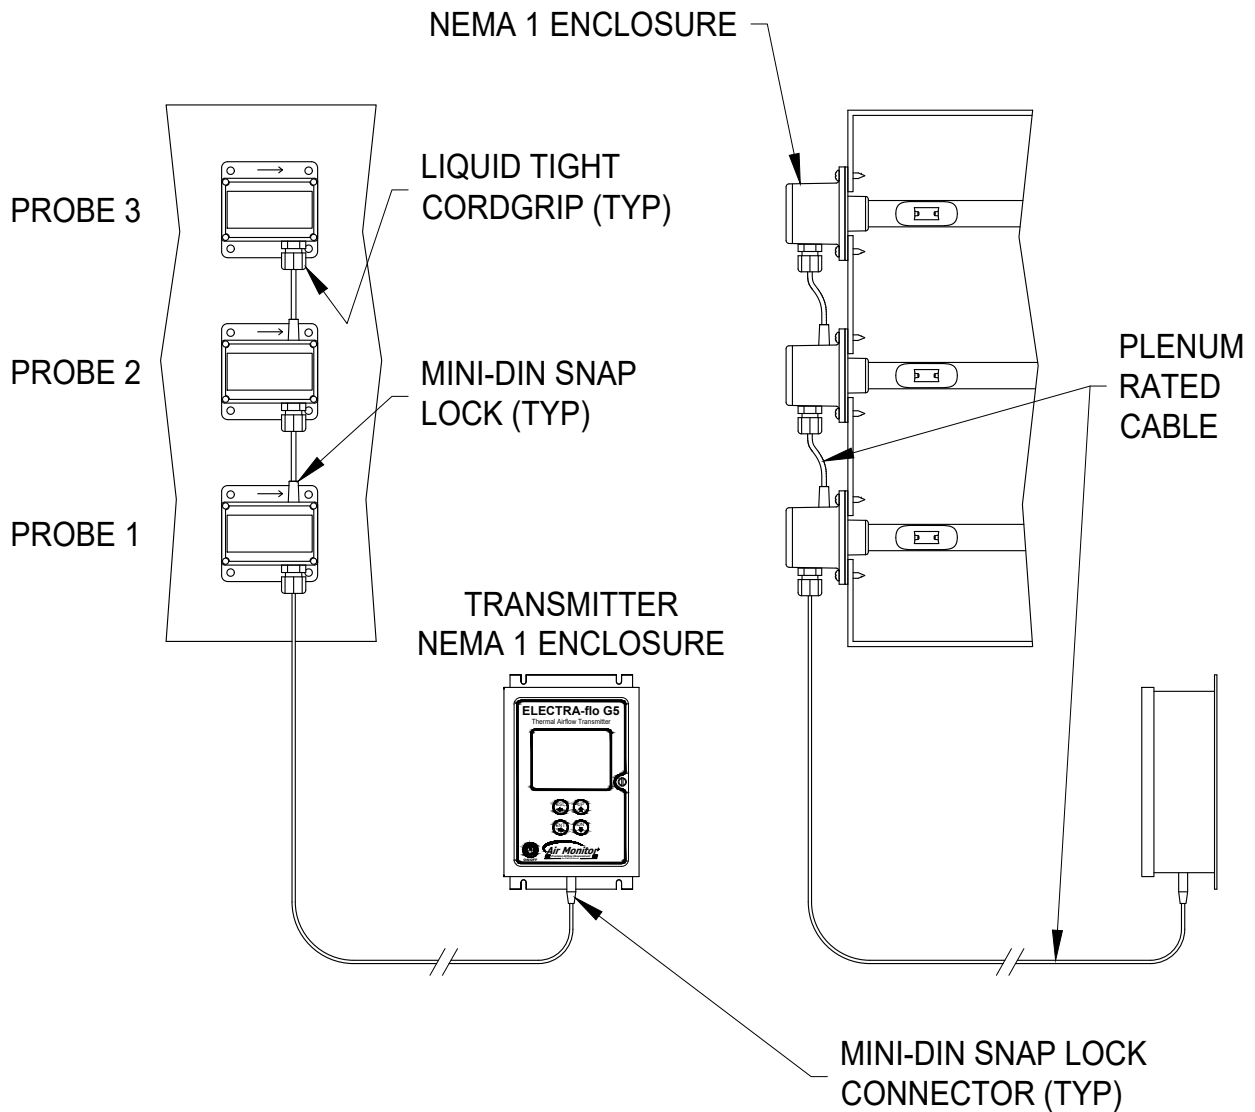

Figure 11
- Multiple **externally** mounted probes connect to each other in a daisy chain method, with one probe in the chain connecting to the transmitter. See Figure 11.